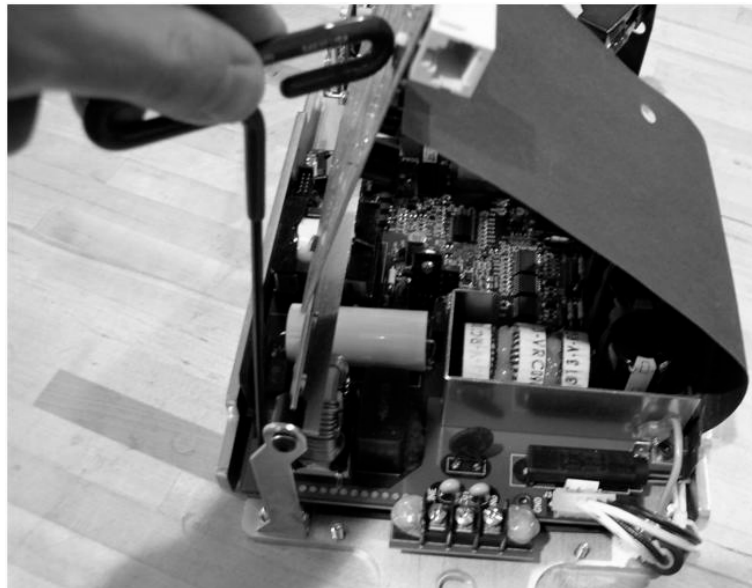

Figure 4: Disconnected Power Supply Cord
5. Use a 3 mm hex wrench to remove the mounting screws from the Power Supply Board 30-08041 (Figure 4).